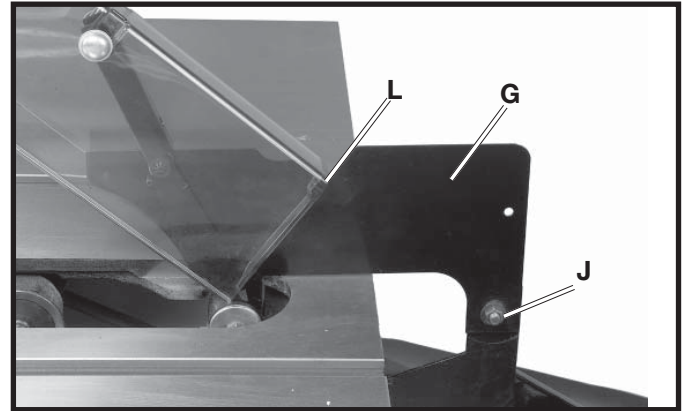

Fig. 48
8. Fasten the rear of the blade guard and splitter bracket assembly (G) Fig. 48, to the rear splitter mounting bracket. Align the hole (J) in the blade guard and splitter bracket with the hole in the rear splitter mounting bracket. Insert a 5/16-18 x 5/8" Carriage Head Screw through the hole and place a 5/16" Flat Washer on the screw and fasten with a 5/16-18 Hex Nut, and tighten securely.